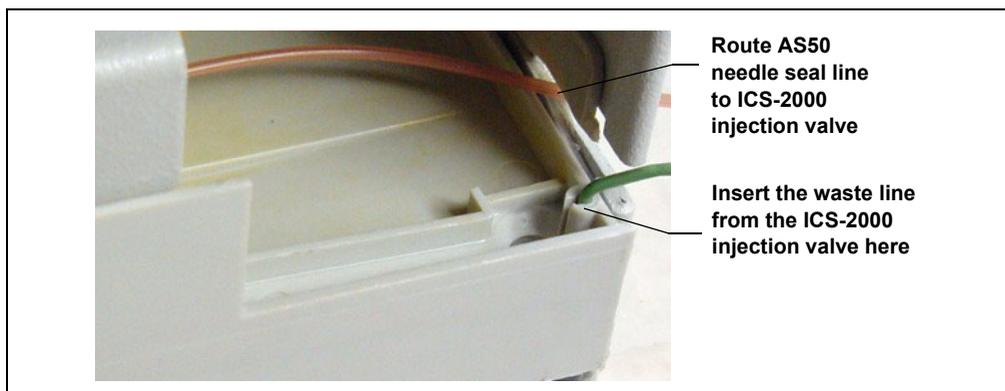

Figure B-59. AS50 Drip Tray
3. The needle seal line that extends from the inject port in the autosampler is coiled inside the AS50 door, on the right side. Route this line through the AS50 right side slot (see Figure B-59) and the ICS-2000 left side slot to the ICS-2000 injection valve.
6. Push the end of the green **AS50 TRAY** line into the small round opening on the right side of the AS50 tray (see Figure B-59).